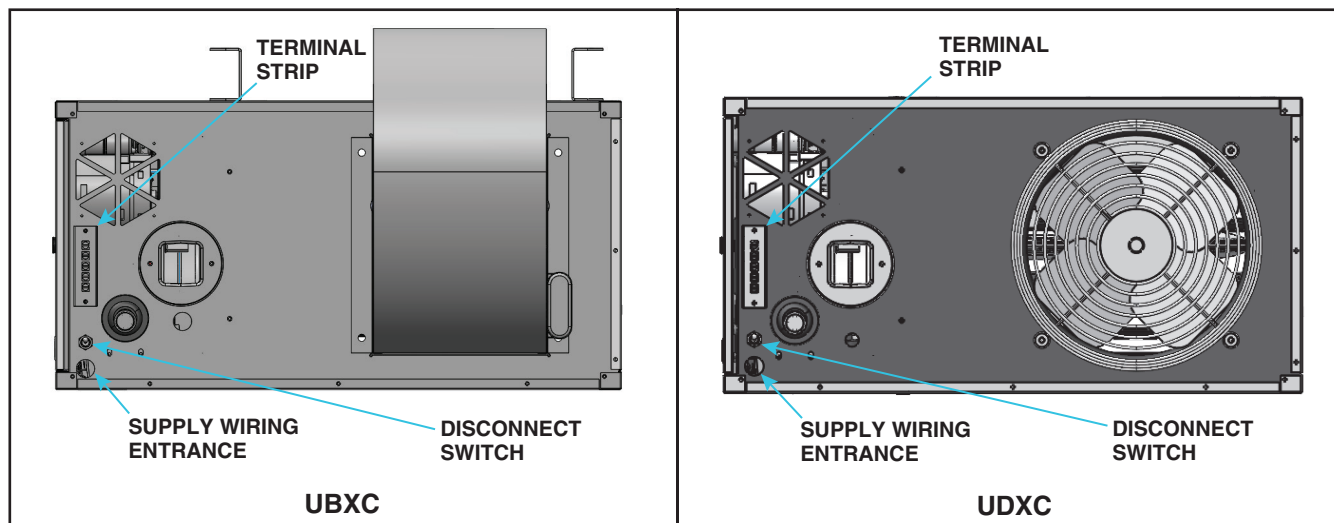

Figure 8. Supply Wiring Entrance and Control Connection Terminal Strip
- All units have a built-in disconnect switch (see Figure 8).
- The supply wiring enters at the rear of the heater as shown in Figure 8 and connects to the disconnect toggle switch.
- Make thermostat connections at the terminal strip on the back of the heater (see Figure 8). The strip has five terminals: C, R, G, W1, and W2. Refer to the wiring diagram provided with the heater. Wires from the terminal strip are factory-wired to the circuit board. Ensure that if there is a heat anticipator setting on the thermostat, it is set at 0.6 amps or in accordance with the amperage value noted on the heater wiring diagram.